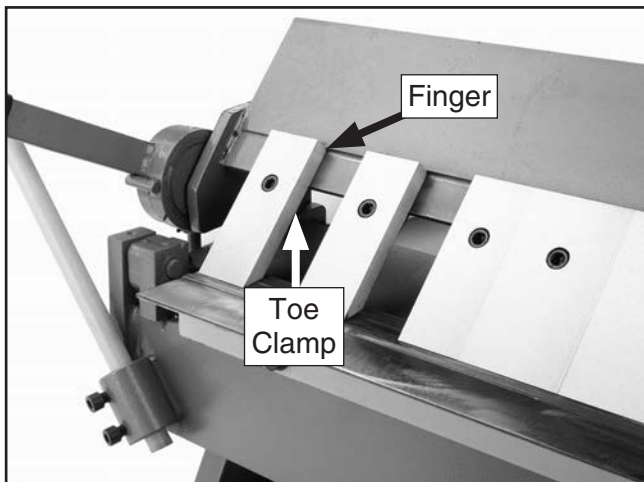

Figure 10. Example of finger spacing.
2. Remove fingers and toe clamps from clamping leaf, as shown in **Figure 10**, and set them aside.